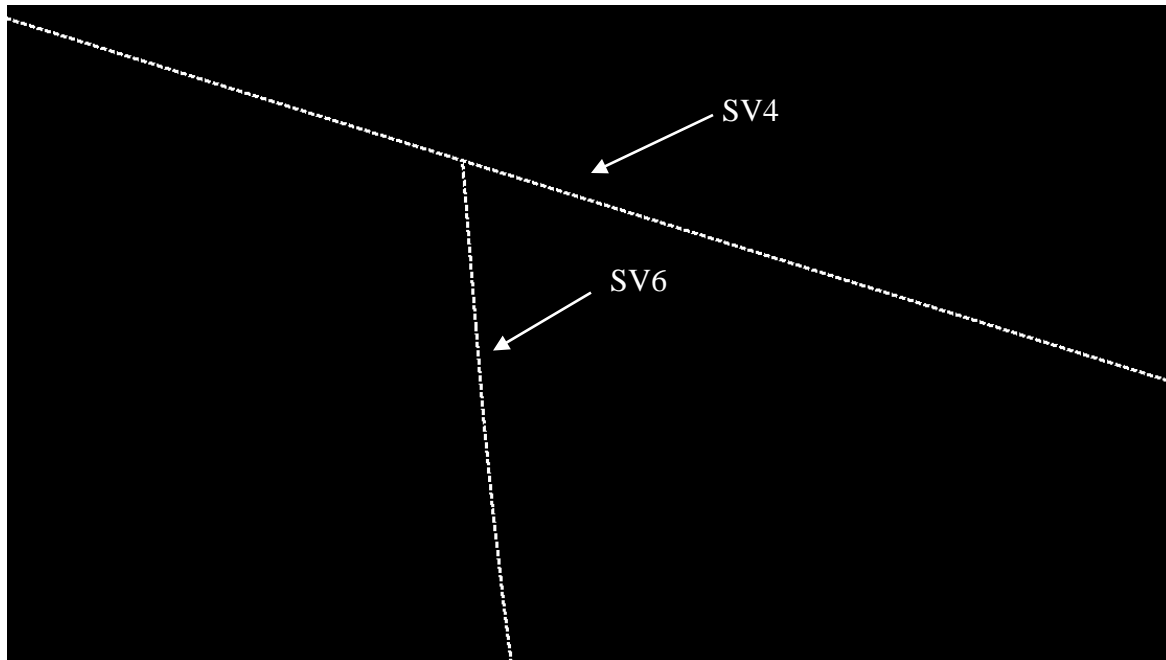

**Figure L11-3** MicroStation Window (Intersection View)
- Notice that **SV6** does not extend to **SV4** as shown below in *Figure L11-3*.